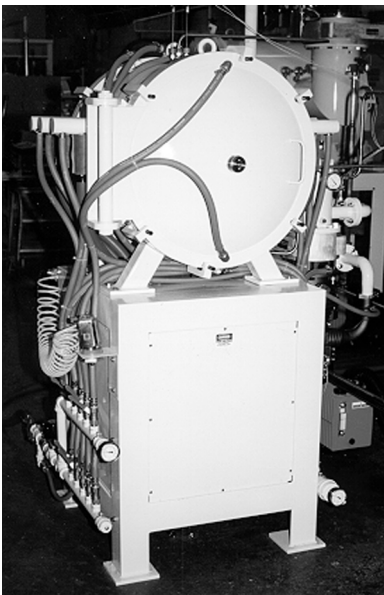

Figure 10.1 A vacuum furnace equipped with a quick quench fan using inert gas. (Courtesy of Thermal Technology Inc.)
3. The 2100° to 2350° F (1150° to 1290° C) required to heat treat high speed steels takes its toll on firebricks or standard refractory insulation used in standard box type furnaces. The result will mean replacing thermocouples and rebuilding the furnace more often. Vacuum furnaces such as the one shown in Figure 10.1 are constructed with water or gas cooled chambers that require no insulation.